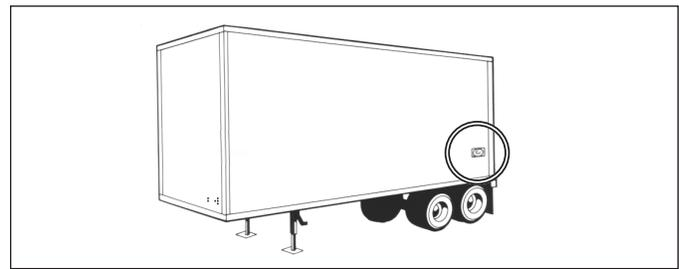

Figure 4 – Trailer-Mounted ABS Indicator Lamp
- **Lift-Axle Control:** The Bendix TABS-6 Advanced Multi-Channel (MC) module can be configured to automatically raise (and lower) lift-axle(s) when a pre-configured load is sensed.
- **Trailer Antilock Braking System (ABS) Indicator Lamp:** Controlled by the ECU to show the ABS status, the trailer ABS indicator lamp illuminates when a Diagnostic Trouble Code (DTC) is active. See Figure 4. If there are no ABS diagnostic trouble codes present, when ignition power is applied to the ECU, the lamp will illuminate as a bulb check lasting typically two (2), up to six (6) seconds at most. If LPWE is Active, WL will be ON until condition is clear.